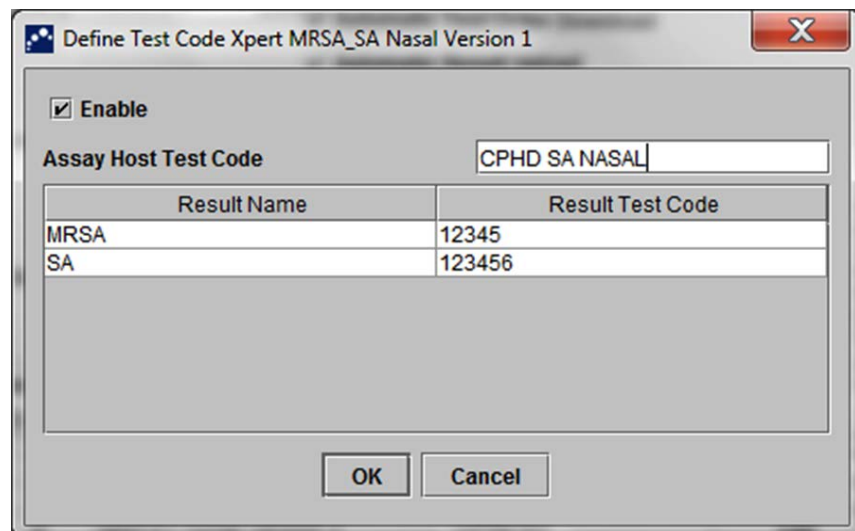
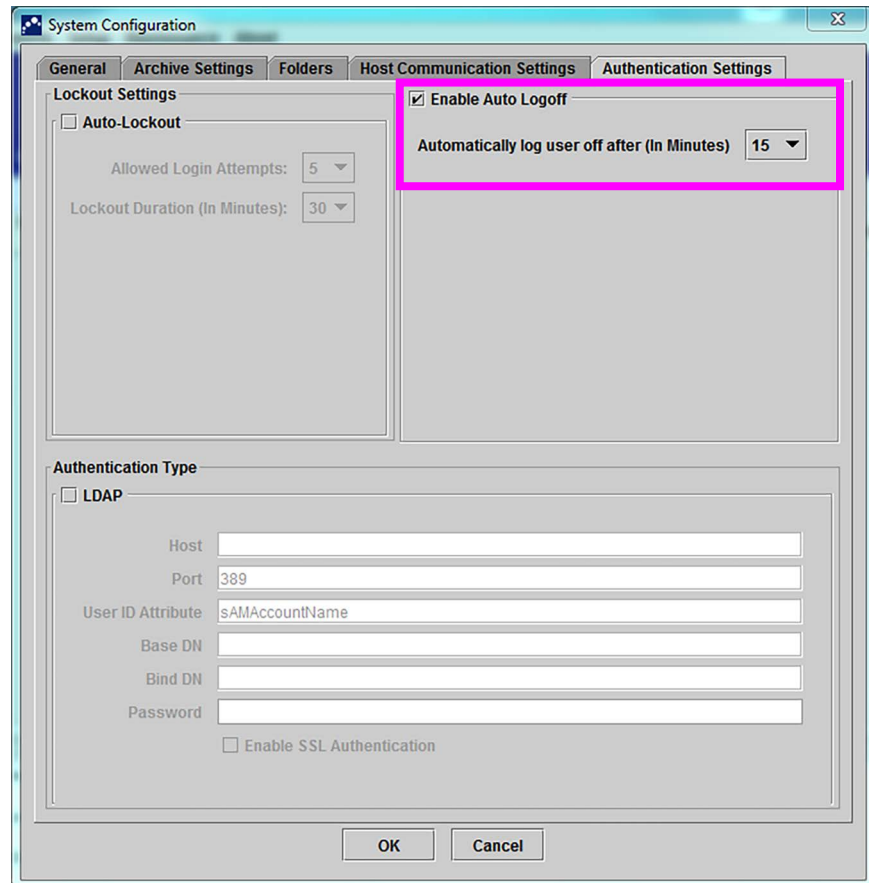

Figure 2-63. Define Test Code Dialog Box for a Multi-Result Assay
Figure 2-65. Authentication Settings Configured for Auto Logoff
2. Click the **Host Communication Settings** tab. The **Host Communication Settings** tab appears. See Figure 2-63.
1. In the **Host Test Code** table section of the Host Communication Settings tab (see Figure 2-63), click the desired **Edit** button to change the setting. The Define Test Code dialog box appears. See Figure 2-65.
4. The result names reported by the assay are listed in the **Result Name** field. See Figure 2-65.
5. Type in the result test code in the **Result Test Code** field (see Figure 2-65) corresponding to each result name that can be reported by this assay.
2. Click the **Authentication Settings** tab; the Authentication Settings information appears. See Figure 2-65.